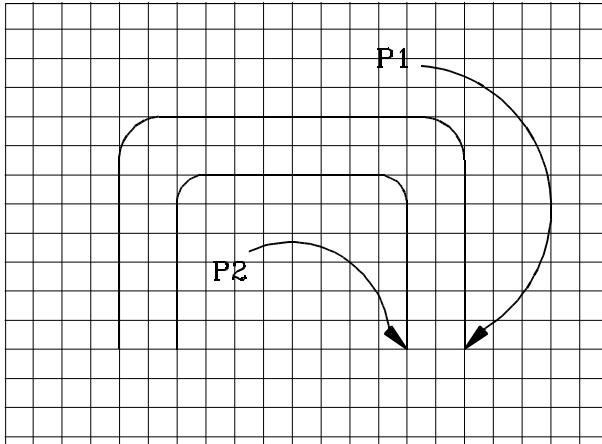

Figure 5:
- Repeat Step 8 for the corners of the smaller rectangle, setting the -Radius ? modifier to 2. Your results should be the same as Figure 5.